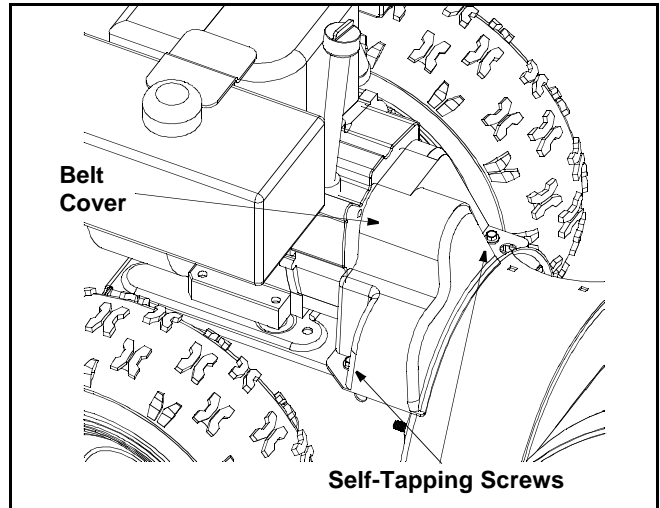

Figure 17
- Remove the plastic belt cover by removing the two self-tapping screws. See Figure 17.
- Lift the auger belt from the auger pulley, and slip belt between the support bracket and the auger pulley. See Figure 17. Repeat this step for the front auger belt.